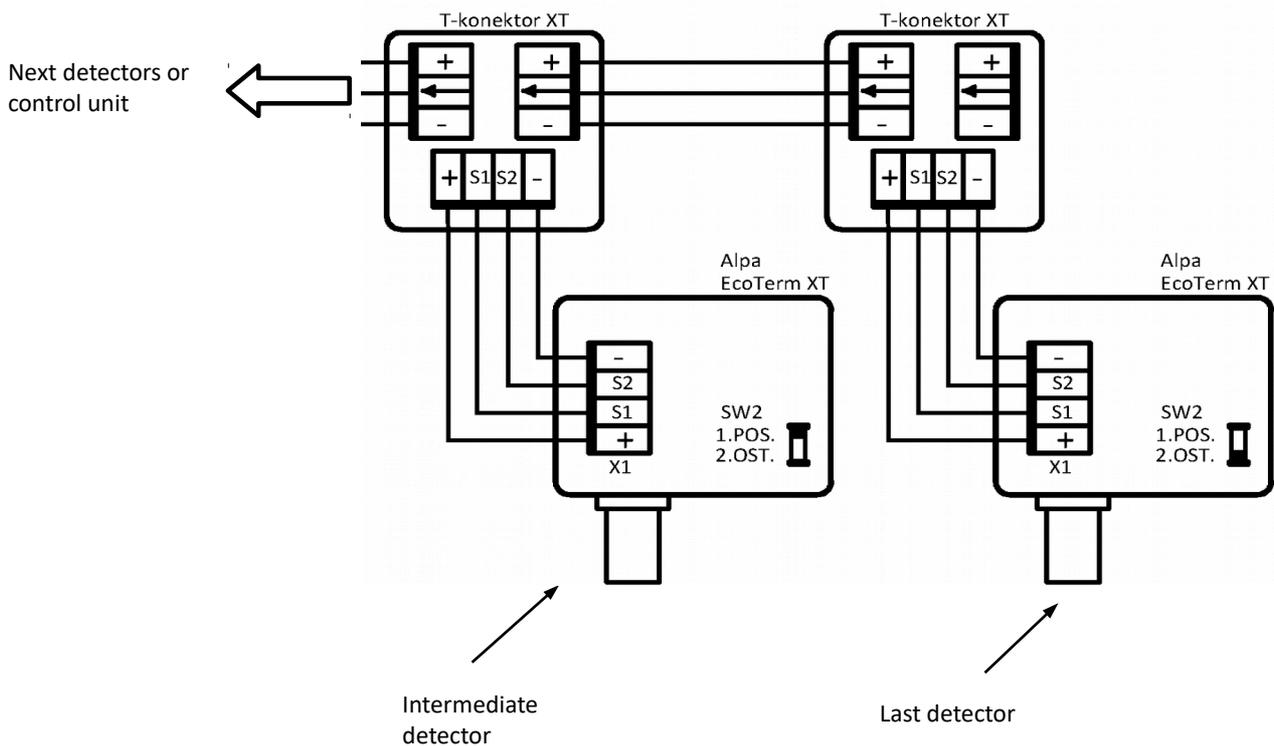

Figure 6: Settings of the configuration switch
- ✦ In the detectors, set the configuration switch in position 1. In the last detector, set the configuration switch in position 2 (see Figure 6). The control unit should show the state of "OPERATION" for the whole bus.
- ✦ configuration switches for all detectors incorporated into the loop (ring) are set to Position 1 (the control unit is considered as the terminal device) – see Figure 6,